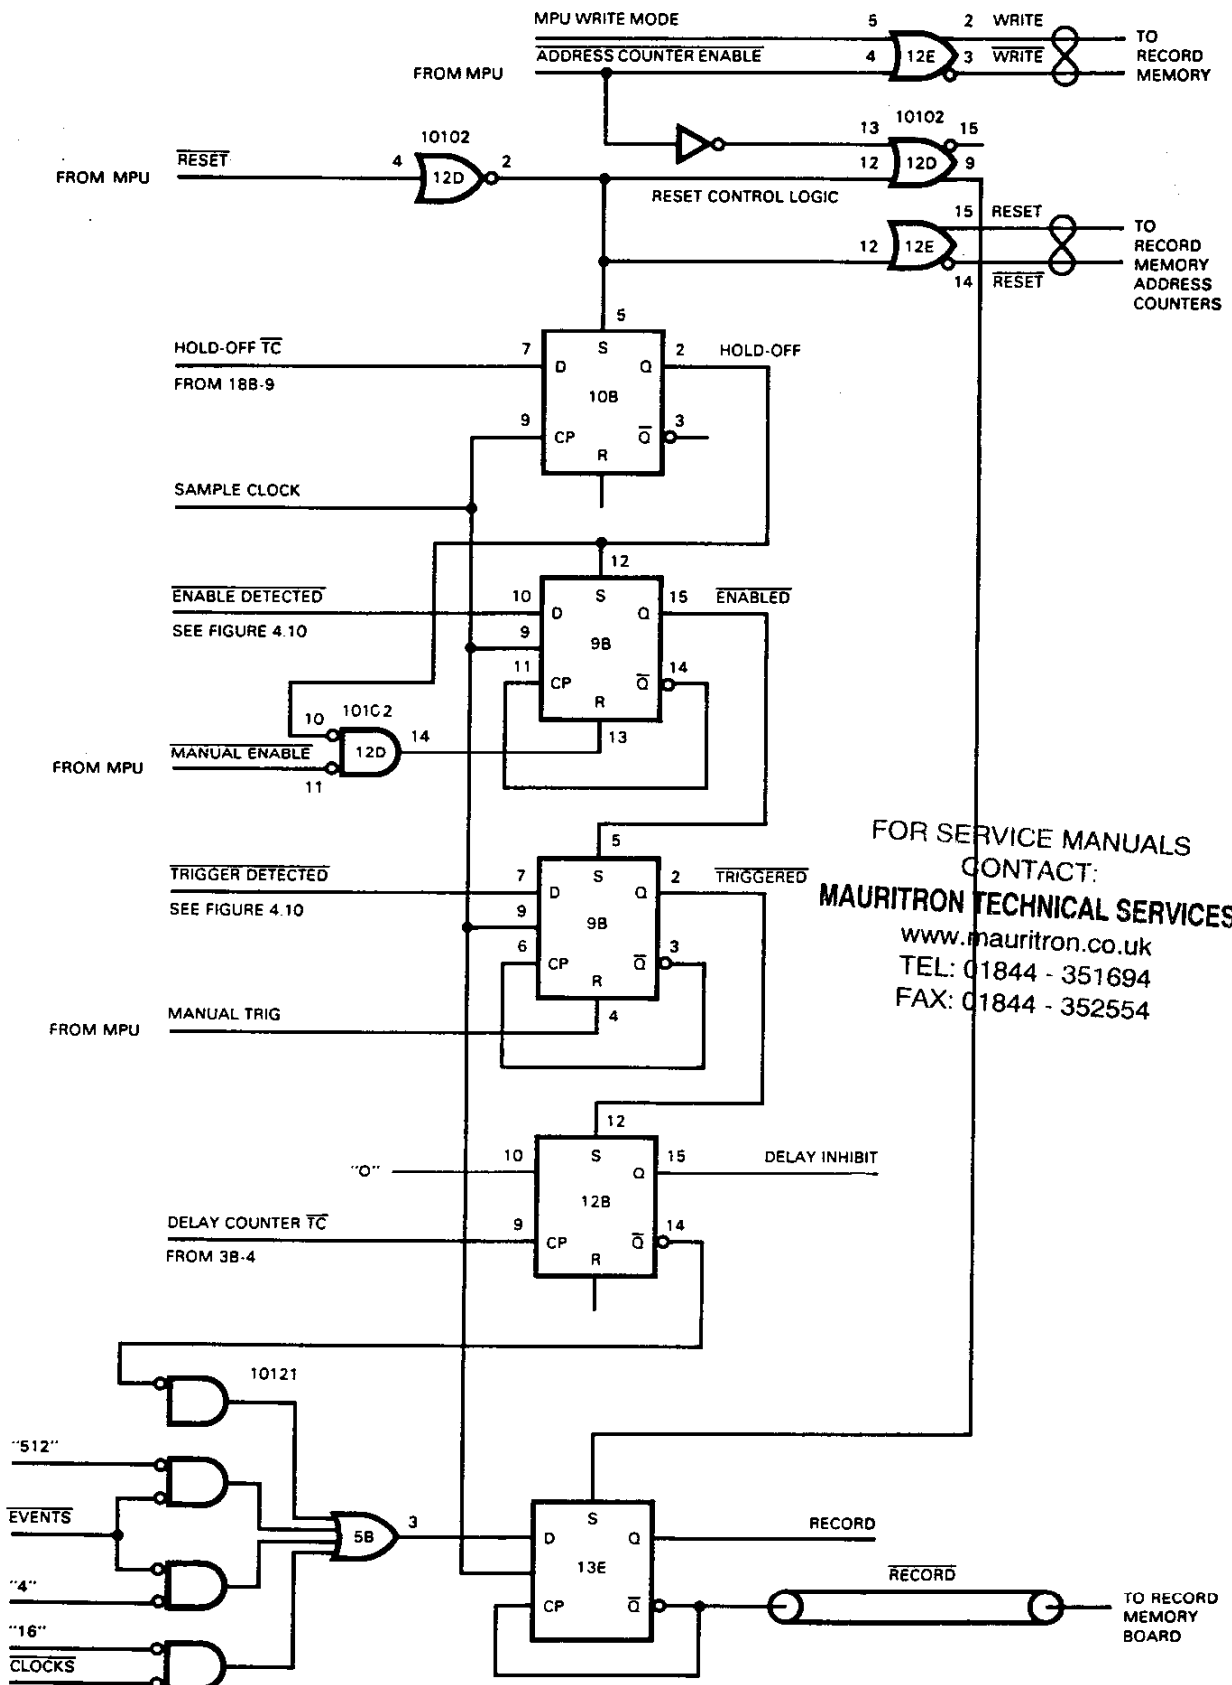

Figure 4.12 Block Diagram of Record Control Flip-Flops
The record control flip-flops are shown in Figure 4.12 and their functions are described as follows:
4. The MPU sets the signal "Address Counter Enable" high (see Figure 4.12), forcing the RECORD flip-flop to be set. This puts RECORD low, enabling the Record Memory to respond to the clock signal "C1" or "C2". This signal also forces the signal "WRITE" to a low and this disables the write enable circuitry on the Record Memory board. Thus the